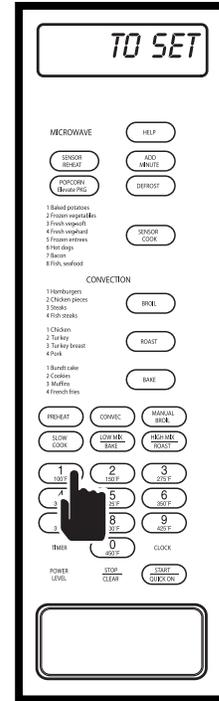

Figure 3-61.
2. Press the number key that correlates with Help feature desired and follow instructions shown on display. For this example, "CHILD LOCK" was chosen by pressing the number 1 key. "TO SET - LOCK - PRESS - START" will flash on display (See Figure 3-61).